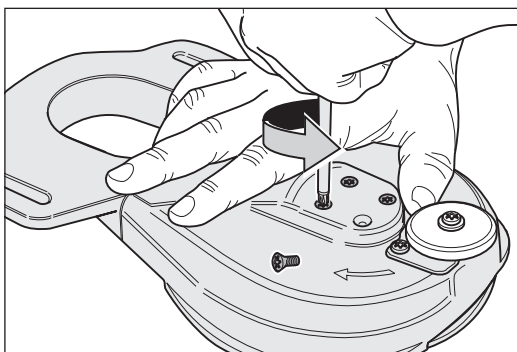

Fig. 37 Remove the four fixing screws of the complete sanding plate.
- 10 Use the universal spanner to undo the four fixing screws of the complete sanding disc (Fig. 37).